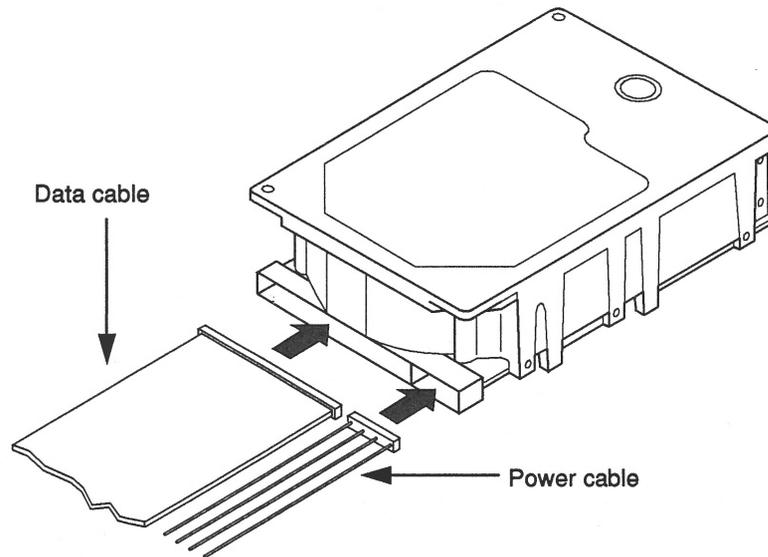

Figure 2-9 Connecting Data and Power Cables to the Drive
4. **Connect the power and data cables to the drive. Refer to Figure 2-9.**